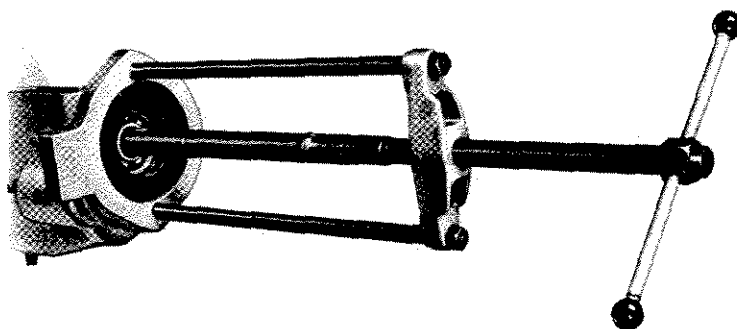

Fig. 13. Removing mainshaft rear bearing. The sectioned view on the left shows the adaptor gripping the ball race groove
Remove items (35), (34), (33) and detach the mainshaft rear race (32) using Churchill Tool No. S.4221A/15, as shown on Fig. 13.